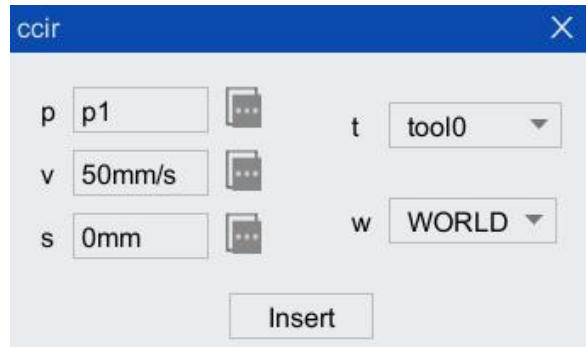

Figure 5-25 "ccir" Instruction configuration interface
Step1. Click "Insert Cmd > Motion instruction > ccir" option in the toolbar of "Program editor", and the "ccir" instruction configuration interface as shown in Figure 5-25 will pop up.
Step6. Click the <Insert Instruction> button in Figure 5-25, and the prompt box of "Create Variable\*\*" pops up, click the <Yes> button, the instruction is inserted successfully.